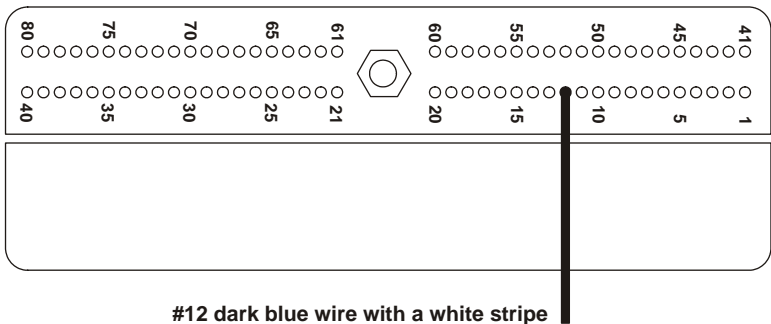

Figure 2
- Carefully remove the gray cover on the connector nearest the engine and locate the blue wire with a white stripe at location 12 on the connector (Figure 2). Pull back the loom to access the wire away from the PCM.